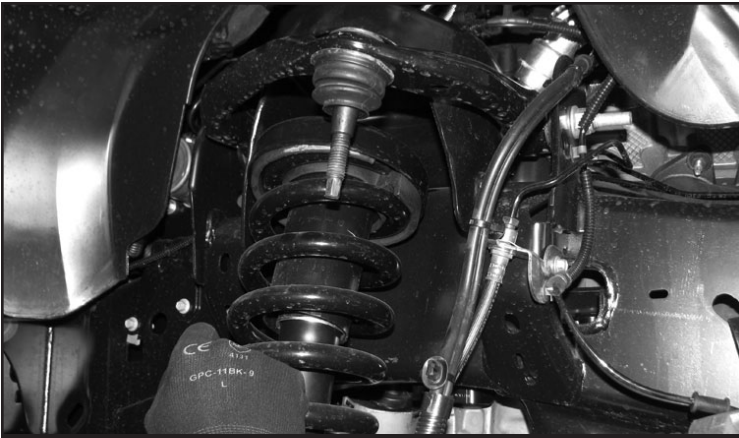

FIGURE 6 - STEP 6
6. Remove the three nuts attaching the coilover to the upper mount and remove the factory coilover. **SEE FIGURE 6**